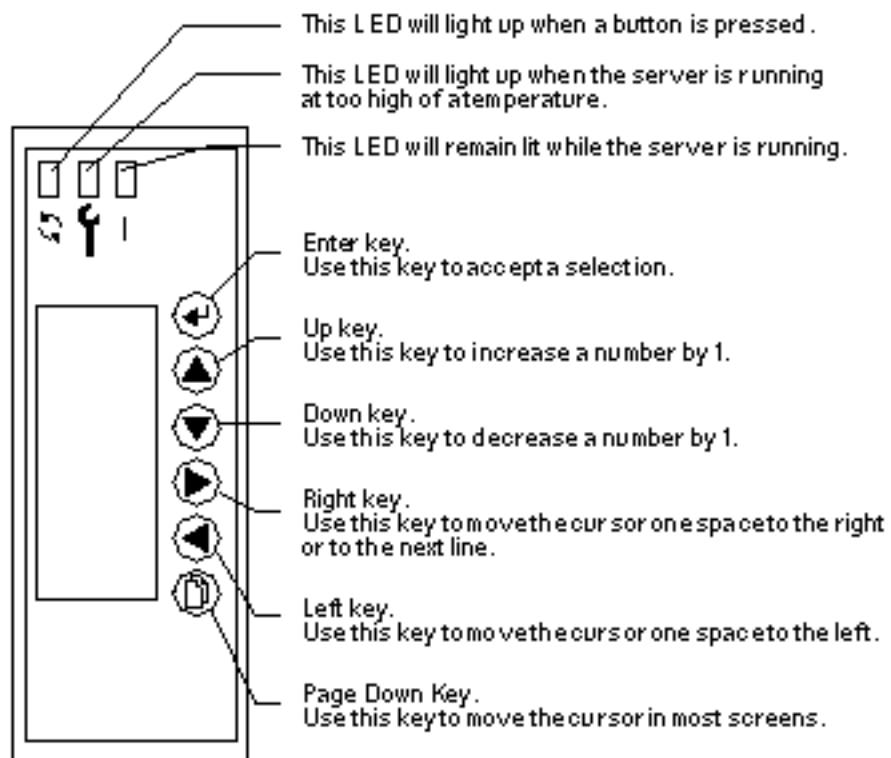

Figure 1-13 Netra 150 Server LCD Display
2. Familiarize yourself with the LCD display at the front of the Netra 150 server (Figure 1-13).